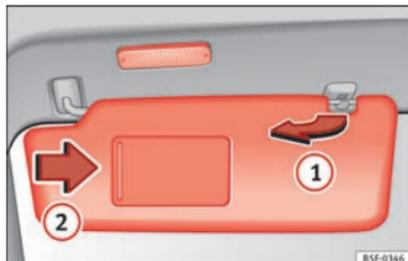

Fig. 142 Sun visor
- The sun visor can be pulled out of its mounting and turned towards the door » Fig. 142 ①.
There may be a vanity mirror, with a cover, on the rear of the sun visor. When the cover is opened » Fig. 142 ② a light comes on.